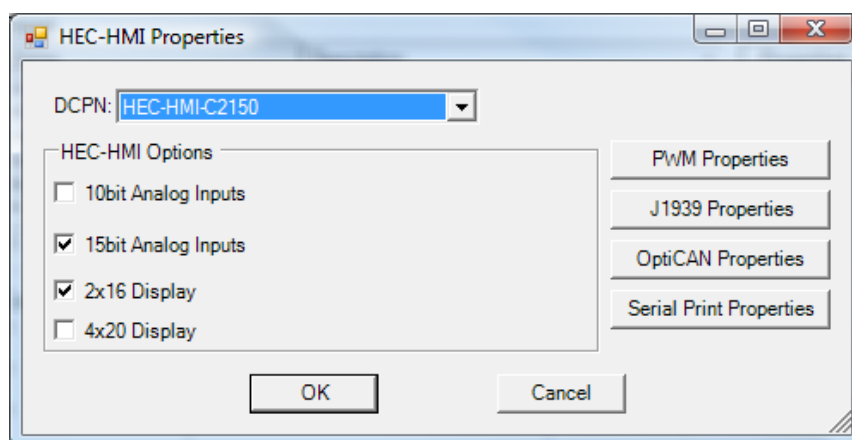

Figure 2 - HEC-HMI Properties Window
2. Click the **PROPERTIES** button. A new window will open. Select the **HEC-HMI-C4100** Model number of the HEC-HMI from the drop-down menu. Click **OK**. This will close the HEC-HMI Properties Window, saving the **HEC-HMI-C4100** as the target for this ladder diagram project. Refer to Figure 2.